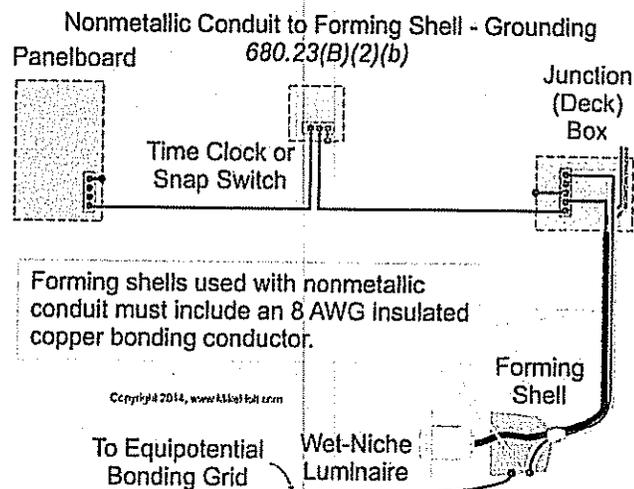

Figure 680-31
**(B) Wet-Niche Underwater Luminaires.**
**(1) Forming Shells.** Forming shells for wet-niche underwater luminaires must be equipped with provisions for raceway entries. All forming shells used with PVC conduit systems must include provisions for terminating an 8 AWG copper conductor.
**(2) Wiring to the Forming Shell.** The raceway that extends directly to the underwater pool wet-niche forming shell must comply with (a) or (b).
**(b) Nonmetallic Raceway.** A nonmetallic raceway to the forming shell must contain an 8 AWG insulated (solid or stranded) copper bonding jumper that terminates to the forming shell and junction box. Figure 680-31